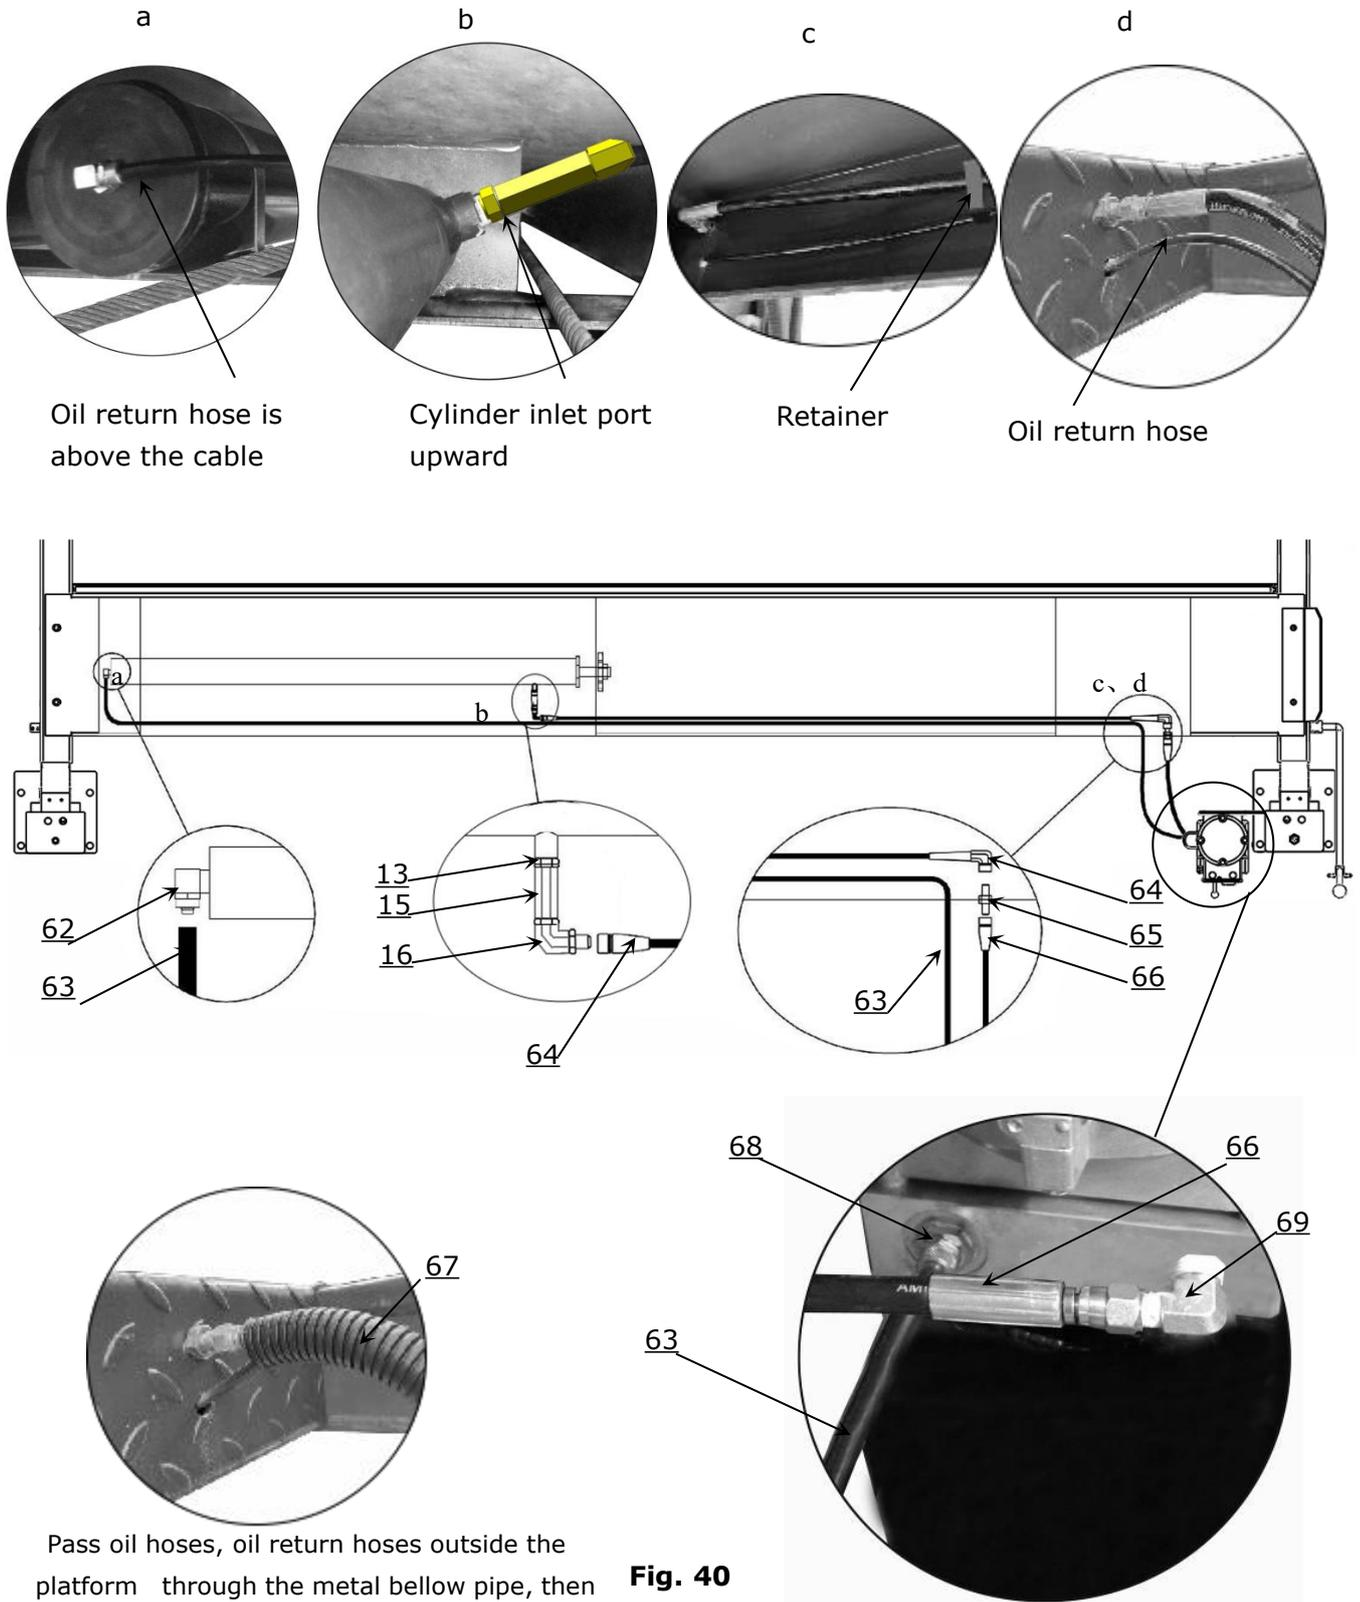

Fig. 40
1. For power unit install to the column at the side of cross beam **A** (See Fig. 40)